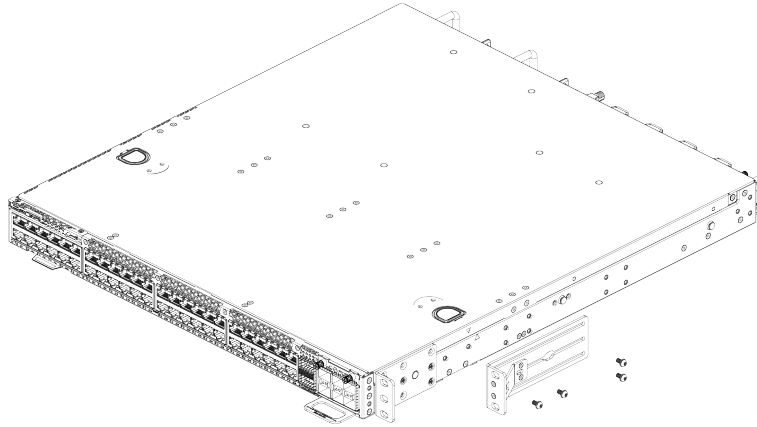
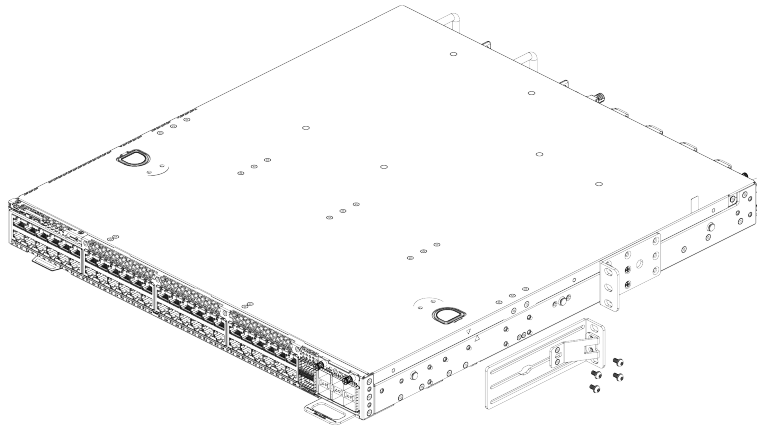

Figure 37: Attaching a Long Mounting Bracket: Front of Switch
Figure 38: Attaching a Long Mounting Bracket: Middle of Switch
- a. Position the long bracket over the holes between the front and the middle of the switch. Orient it so that its flange (ear) rests against the rack post. See Figure 37 and Figure 38.